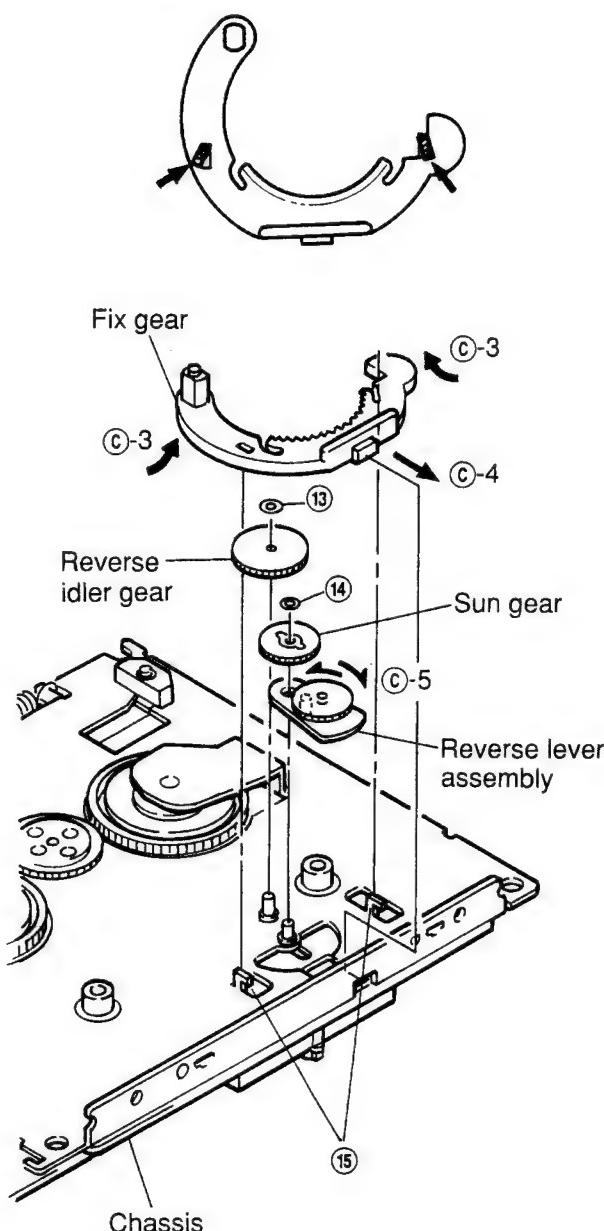

Figure 13
- (1) Remove M1.2 lock washer ⑯, pull it up from the stud of the chassis and remove the gear as shown in Figure 13.
- (2) Remount following the removal steps in the reverse order.
- (1) Remove M1.2 lock washer ⑰, pull it up from the stud of the chassis and remove the gear as shown in Figure 13.
- (2) Mount it, following the removal steps in the reverse order.
- (1) Adjust the two mounting claws for the fix gear on the chassis ⑯ and remove the section ⑰-3 of the gear by pulling it up in the direction of the arrow shown in Figure 13.
- (2) Insert the section ⑰-4 of the new gear into the chassis, and mount it following the removal steps in the reverse order as shown in Figure 13.
- (1) Remove both the fixing gear and the sun gear and remove the reverse lever assembly as shown in Figure 13.